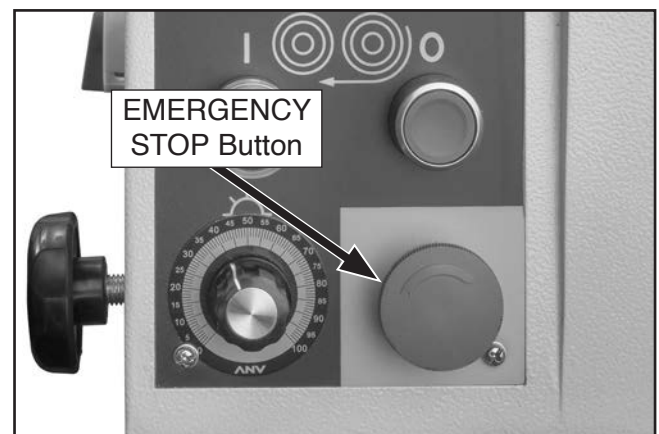

Figure 46. Location of EMERGENCY STOP button.
17. Press EMERGENCY STOP button on control panel (see **Figure 46**) to turn cutterhead motor and feed motor **OFF**.